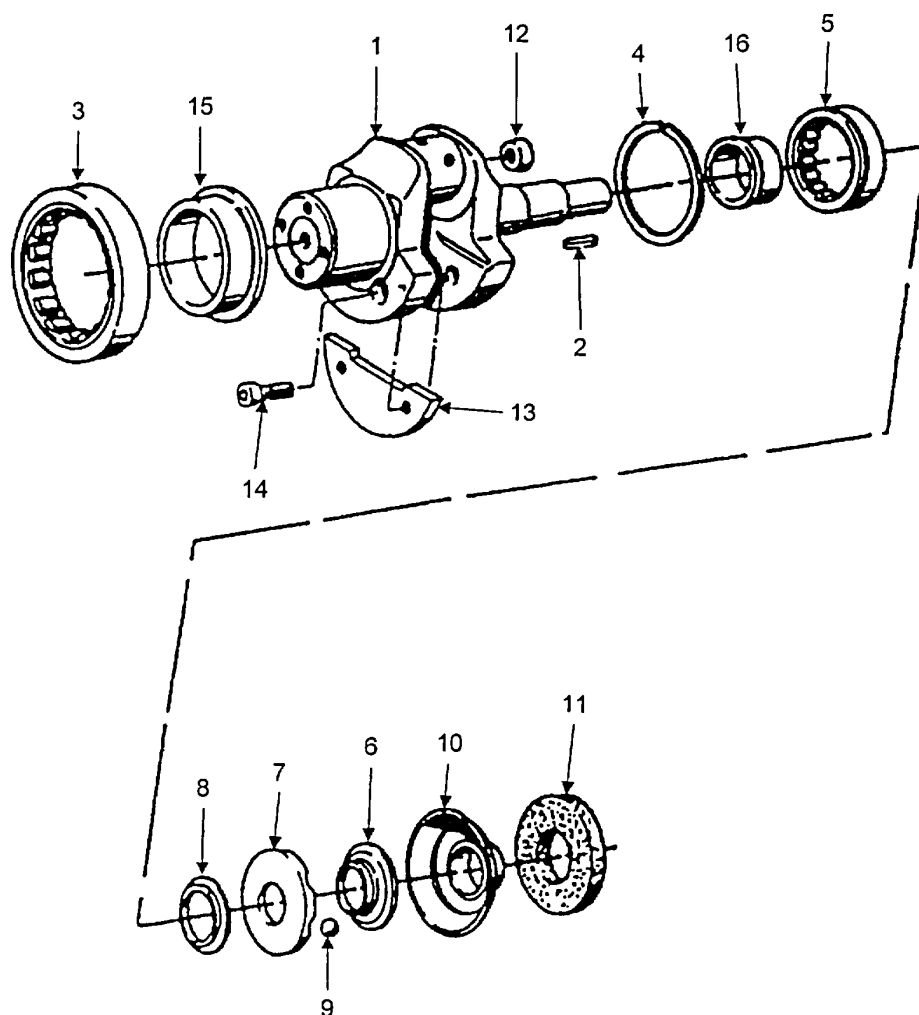

FIGURE 5-51. CRANKSHAFT
- a. Using an oven, heat crankcase to 175°F to 210°F (80°C to 100°C) Push out crankshaft (Figure 5-51, Item (1) and roller bearing outer race (3) Remove key (2).
**Balls (9), ball shell (10), and sliding disc (11) are governor components. Refer to paragraph 5-6.9 for instructions on removal of these parts.**
- b. Remove and discard cover (12).
- c. Remove counterweight (13) by removing two socket head cap screws (14)
- d. Using a torch, heat roller bearing races (15 and 16) and remove them from crankshaft (1), being careful not to over heat
a. Install new cover (Figure 5-51, Item 12)
b. Apply lubricating oil to the threads of two socket head cap screws (Figure 5-51, Item 14) and contact surface of counterweight (13). Install counterweight and two socket head cap screws. Torque socket head cap screws to 16 lb.-ft (22 Nm)